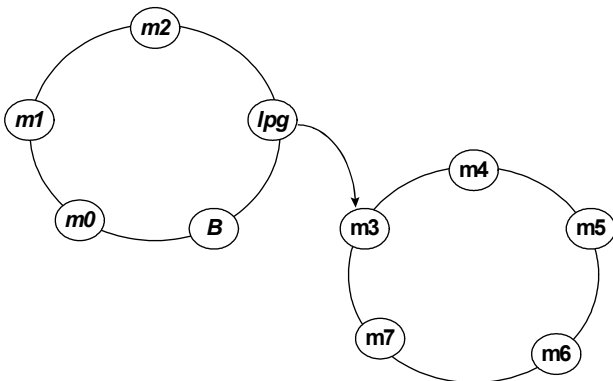

Figure 13-1. Secondary Bus Arbiter Example
The secondary Arbiter supports a programmable two-level rotating algorithm that enables the nine request/grant pairs to control up to nine external bus masters. In addition, there is a request/grant pair internal to the PCI 6350, which allows the device to request and be granted access to the secondary bus. Figure 13-1 is an example of the Internal Arbiter wherein four masters, including the PCI 6350, are in the high-priority group, and five masters are in the low-priority group. Using this example, if all requests are always asserted, the highest priority rotates among the masters in the following way (the PCI 6350 is denoted as *B*; high-priority members are provided in *italic type*, and low-priority members in **boldface type**):
**Note:** In Figure 13-1, “lpg” denotes “low-priority group.”
Using the example provided in Figure 13-1, but with the groups at fixed-priority, suppose that: